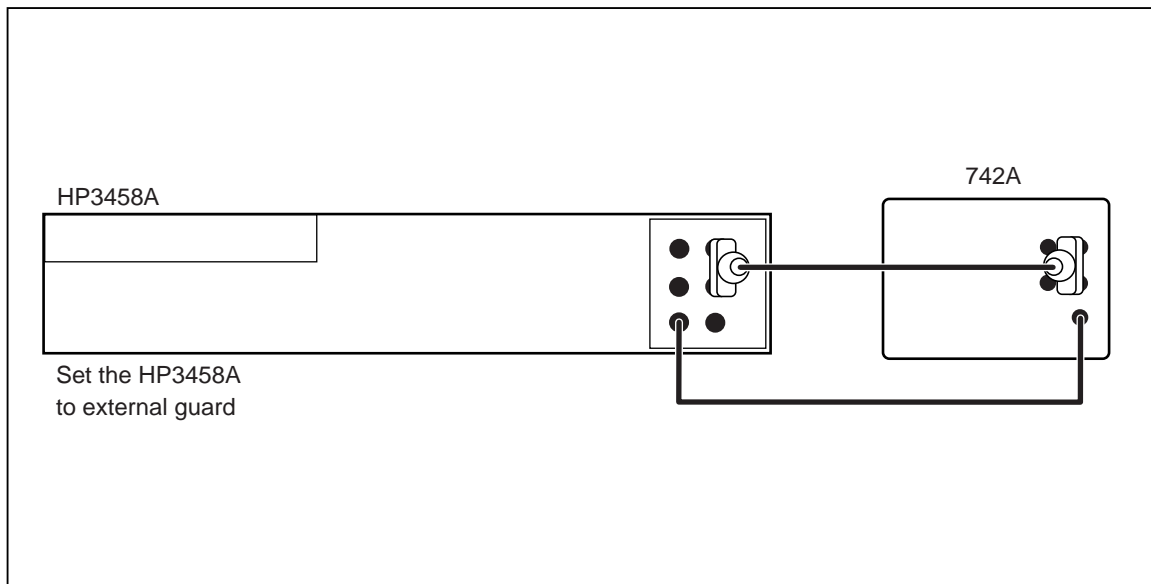

Figure 3-11. Scaling the DMM to a Fluke 742A
6. Disconnect the DMM from the UUT, and connect it to the Fluke 742A-1M Resistance Standard as shown in Figure 3-11. Scale the 1 M Ω DMM range to the Resistance Standard as described in the HP3458A user documentation.